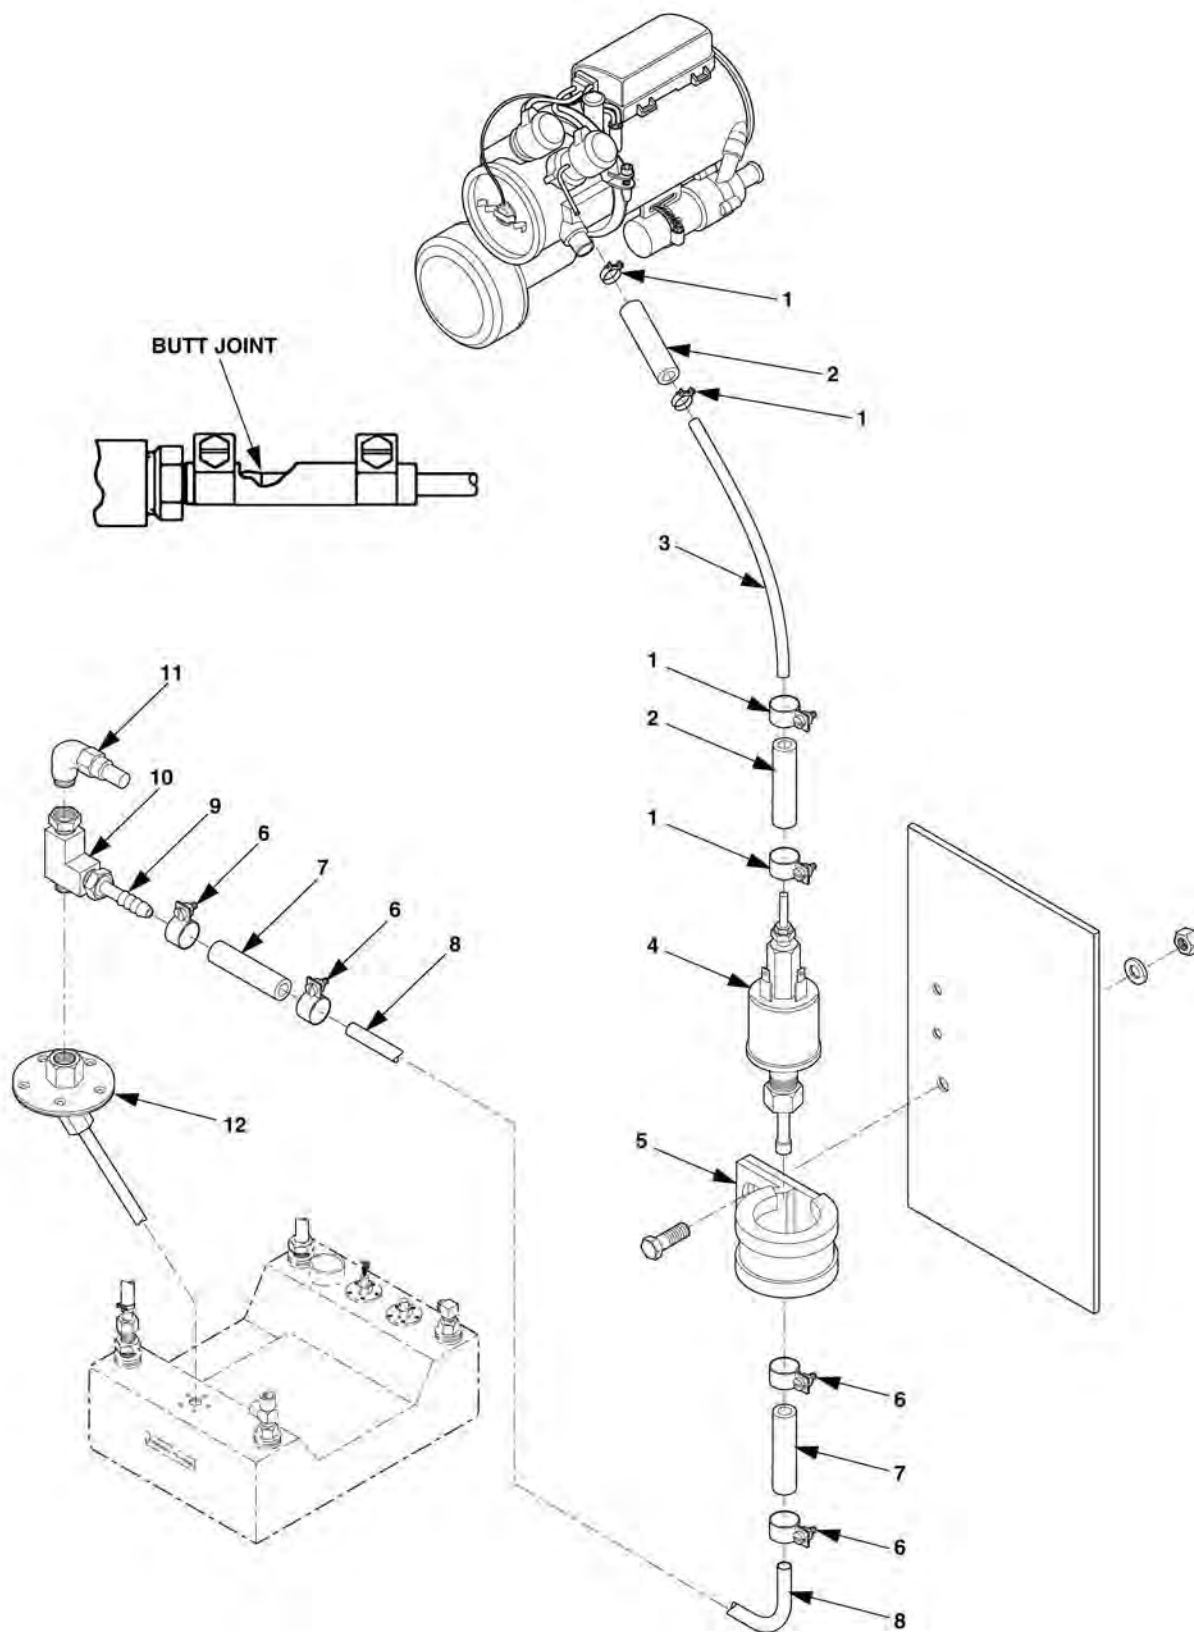

Figure 5-5. Fuel System Assembly
14. Disconnect generator fuel supply line (11), Figure 5-5, from fuel pickup tube assembly (12). Attach tee (10) to fuel pickup tube assembly (12) and attach generator fuel supply line (11) to top of tee.
(See Figure 5-5).